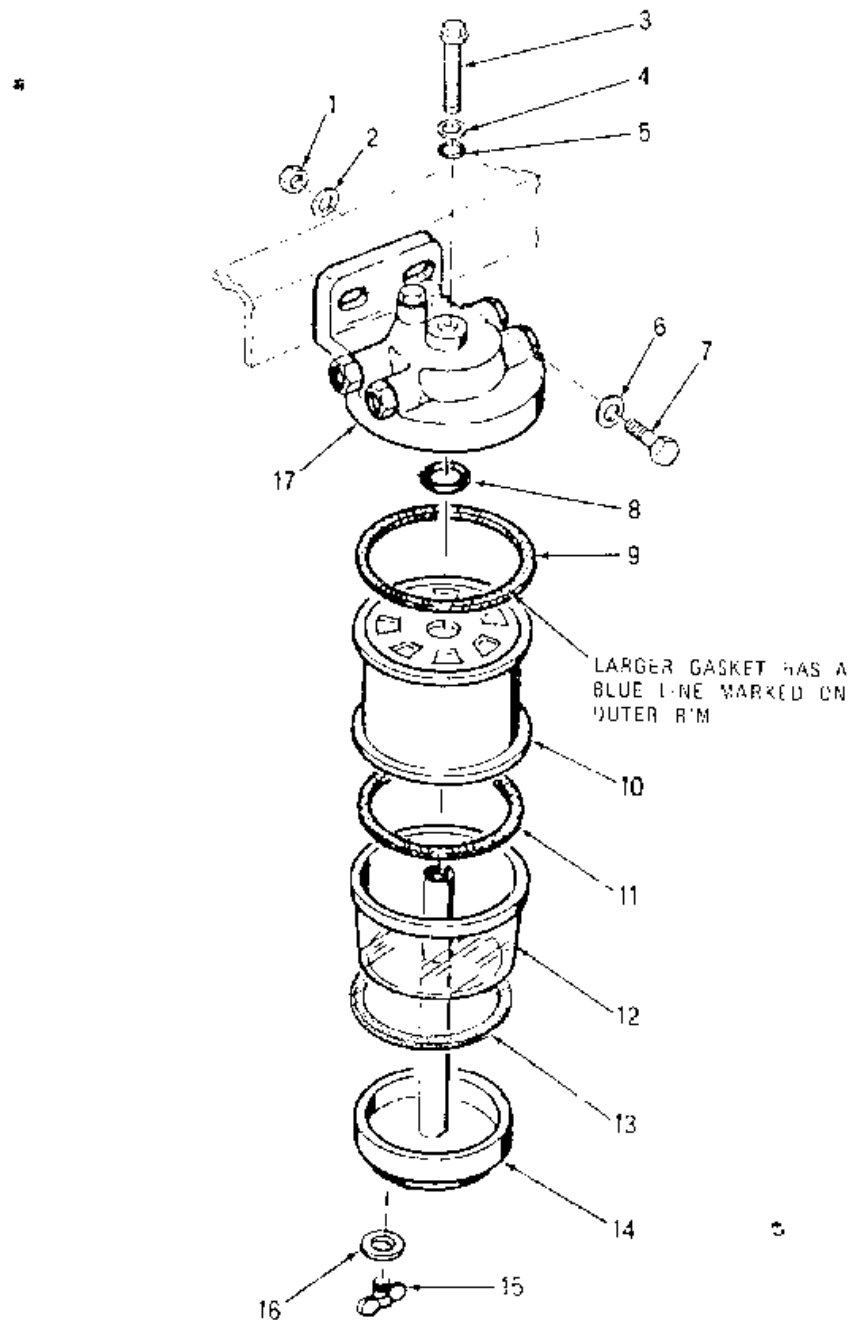

Figure 16, Fuel Filter
Step 22: Replace heater fuel filter. (Figure 16)
- Loosen thumbscrew (15) and drain fuel from sediment bowl, being sure to catch fuel in any available container. Remove thumbscrew and gasket (16) when all fuel is drained.
- Unscrew bolt (3) while keeping light upward pressure on filter bottom (14), then remove bottom (14), bowl (12), and filter element (10) as a unit and separate.
- Remove gasket (13) from base, gasket (11) from bowl (12) and gaskets (8 and 9) from filter head (17).
- Remove two nuts (1), bolts (7) and washers (2 and 6).
- Remove bolt (3), washer (4), gasket (5) and filter head (17).
- Position bolt (3), washer (4) and gasket (5) on filter head (17) and secure head to frame with bolts (7), washer (2 and 6) and nut (1).